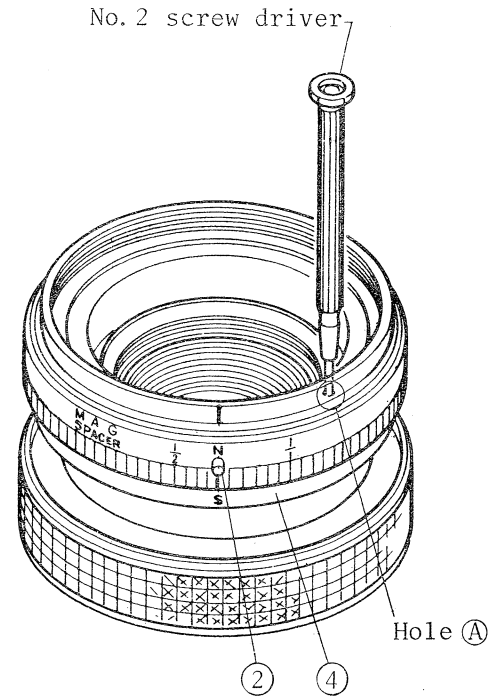
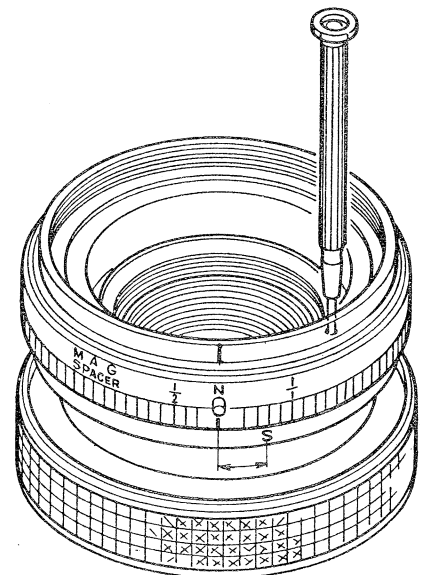

Fig.33
Fig.34
1. After rotate the focusing ring counter clockwise, align the N.S marks with red line on the filter mounting ring as shown in Fig.33.
2. Insert the NO. 2 screw driver (or about 5cm length, 1.4 ϕ ~1.5 ϕ bar) into hole ① on the filter mounting ring as shown in Fig.33.
3. While pressing down on the ② magnification sector button, rotate the ④ S-ring counter clockwise until it stops.
4. The S mark should stop at 10mm distance from the green line as shown in Fig.34.